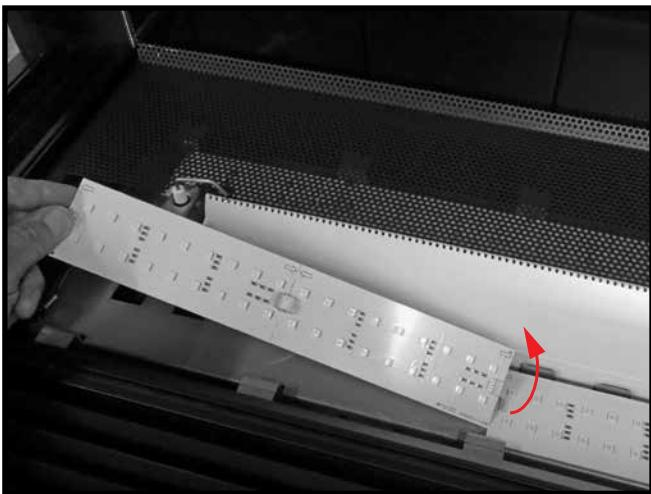

Figure 55: LED strip removal.
7. When removing an individual LED section, lift up the side of the LED section next to the tabs that were just moved upwards and then remove the LED section (Figure 55).